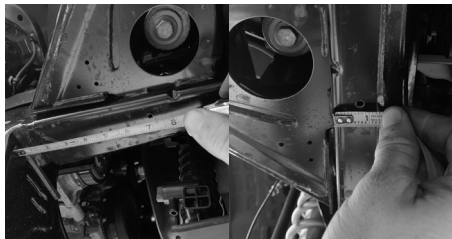

Figure 9: Passenger side shown
21. You will need to mark the first mounting hole 7" from the crossmember and $\frac{3}{4}$ " in towards the engine. (Figure 9)